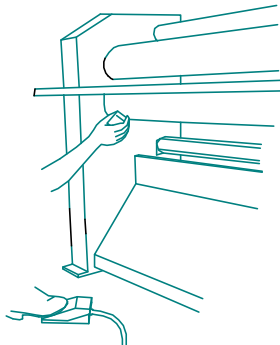

Figure 51
- Use a rubber-cleaning block to remove the excess adhesive from the rollers. This is best done with the rollers hot. When cleaning the upper roller, place a piece of waste board under the roller to prevent the removed adhesive remnants from falling onto the lower roller (see Figure 51).